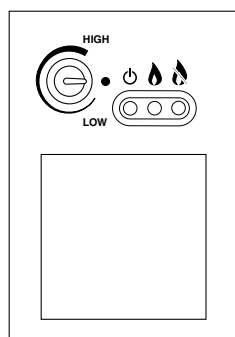

Fig. 4 OFF Position
2. Turn the boiler thermostat control knob to OFF "●" (Fig. 4), then turn off the gas supply at either the appliance gas cock or the meter.